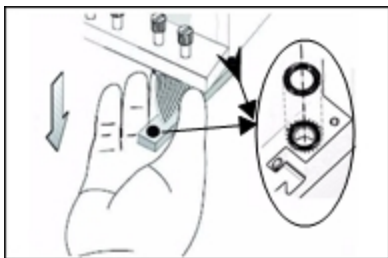

Figure 6-63 O-ring seals on the print head
13. Inspect the replacement head, and make sure that the O-ring seals are in place (see Figure 6-63 on the previous page).